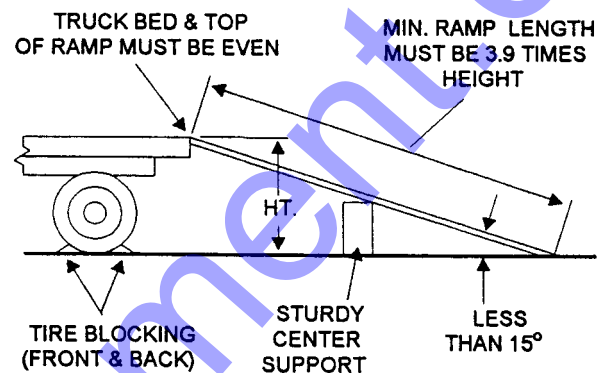

Fig. 26 - Ramps and Center Supporting Blocks
1. Use a pair of matching ramps that can support the weight of the paver. The ramp width must be at least 1-1/2 times the track width, and the ramp length must be at least four times the ramp height. It is best to use strong wood-covered steel ramps and center supporting blocks (Fig. 26).